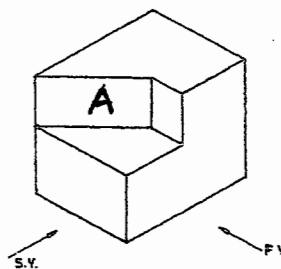

Figure 2 Isometric view of an end block.
- c) Figure 2 shows a pictorial view of an end block.